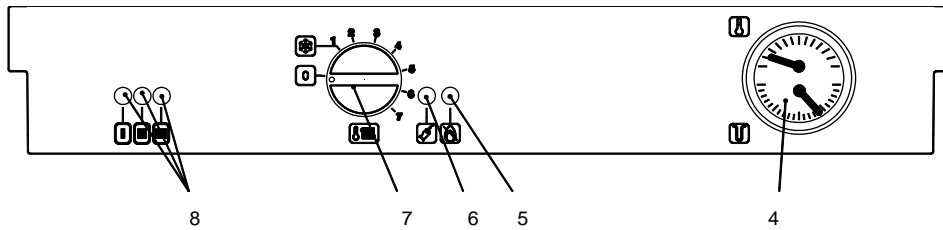
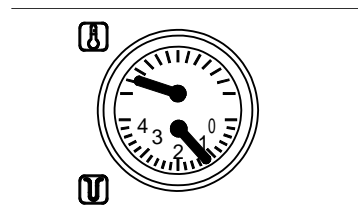

Figure 3.2
Figure 5.1
Three lights (8 in Fig. 3.2) give detailed indication regarding the operation of the boiler. The following table gives the relationship between each of the possible light combinations and their meaning.
- Ensure that the Central Heating circuit is regularly filled with water checking that the pressure indicated on the temperature and pressure gauge (4 on figure 3.2) is not lower than 1 bar (14.5 psi) as shown on figure 5.1.
- The temperature and pressure gauge (Fig. 5.1 on page 12) will allow you to check that the set temperature is obtained.
- You should check that the pressure on the temperature and pressure gauge (Fig. 5.1 on page 12) is not below the correct setting.
#### **If the pressure on the temperature and pressure gauge (Figure 5.1 on page 12) has gone down:**
- Check on the temperature and pressure gauge (figure 5.1 on page 12) that the pressure in the central heating circuit is not close to 3 bars (43.5 psi). In this case, temperature rise in the circuit can cause the pressure relief valve to open.